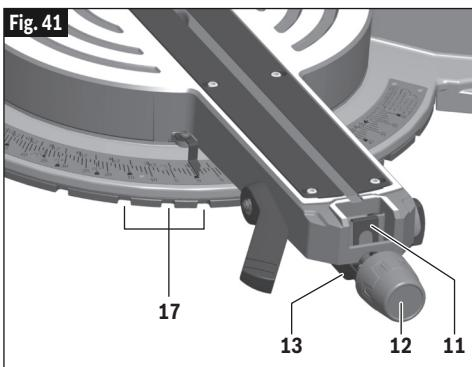

Fig. 41
2. Push the detent override clip **11** forward and latch in place over receiving edge on turntable arm. Release miter detent lever (Fig. 41).